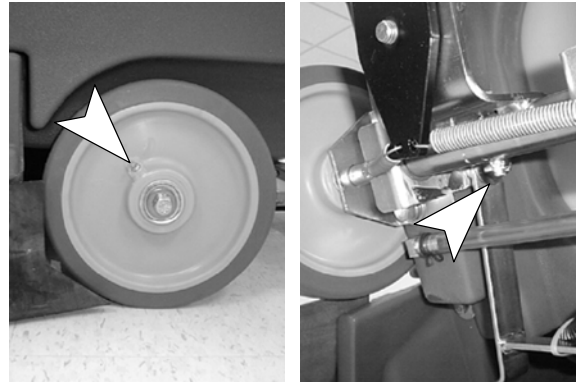

FIG. 23
3. Lubricate grease fittings as shown with a water resistant grease (Figure 23).